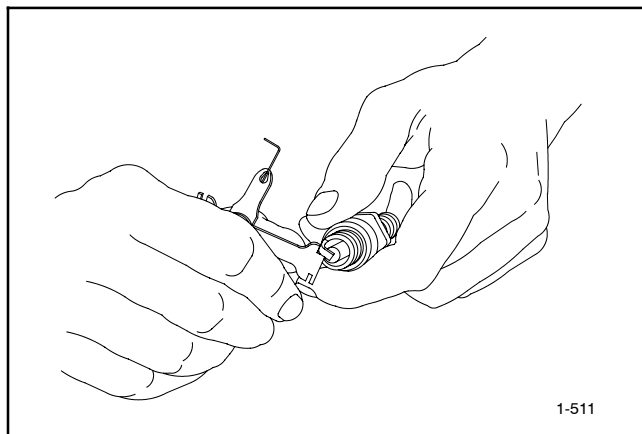

Figure 4-10 Spark Plug Gap Adjustment
10. Use a gapping tool to gently bend the side electrode closer to or farther from the center electrode to set the correct gap. See Figure 4-10. Position the side electrode directly over the center electrode.